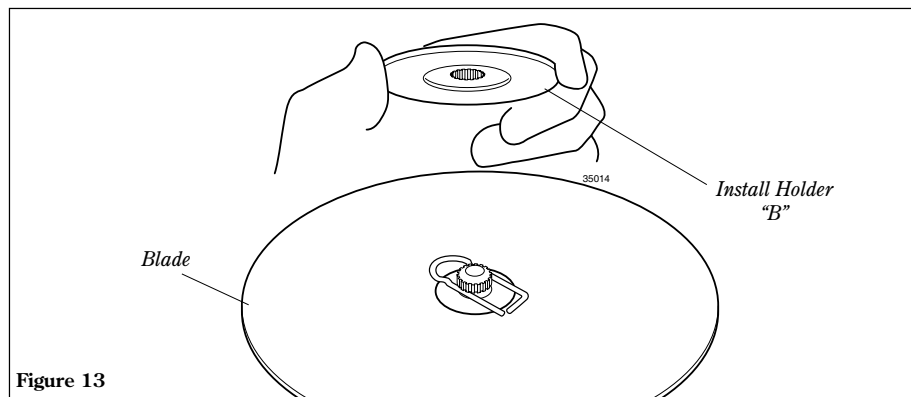

Figure 13
6. Install Holder "B" on the gearcase shaft. See Figure 13.